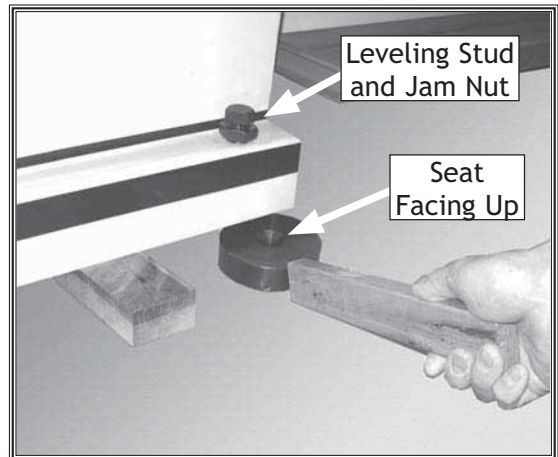

Figure 12. Leveling feet installation.
5. Slowly raise the lathe off of the pallet, carefully move the lathe to your prepared location, and set the lathe on wooden 2x4's (**Figure 12**), so you will be able to install the leveling feet in the next step.
6. With the lathe securely resting on the 2x4's and still connected to the lifting apparatus, install the three short leveling studs in the stand at the back of the lathe and the long studs in the front of the lathe. Make sure all studs are ball-side down with the jam nuts at the top side of the stud, (see **Figure 12**).
8. Using a push stick, slide the metal feet under the lathe with the seats facing up as shown in **Figure 12**, so when the 2x4's are removed and the lathe is lowered, the ball studs will sit into the foot seats.